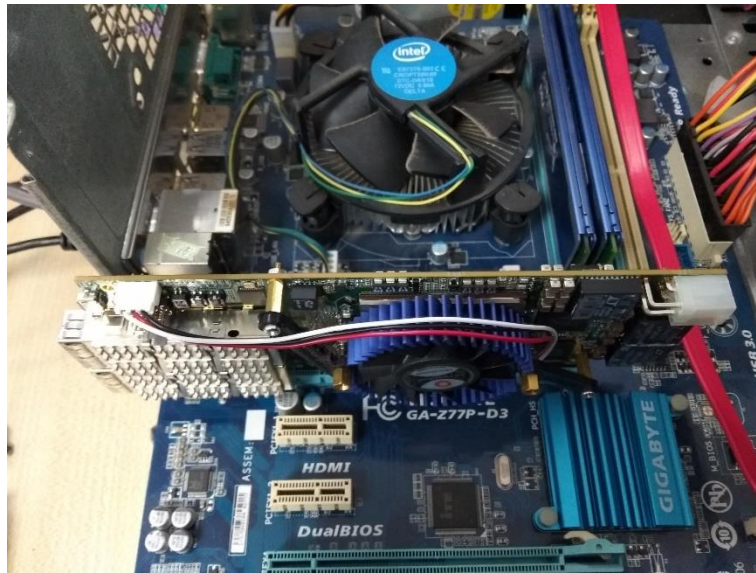

Figure 6-9 FPGA board installation on PC
1. Install the FPGA board on your PC as shown in **Figure 6-9**.